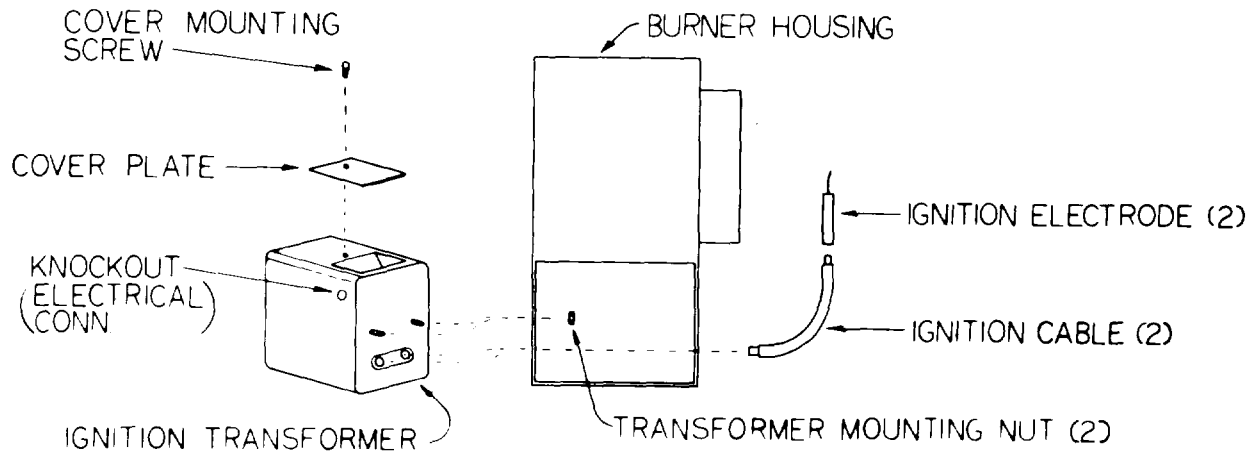

Figure 39. IGNITION SYSTEM
- a. Removal. Refer to Fig. 39 and remove the ignition transformer and ignition cables.